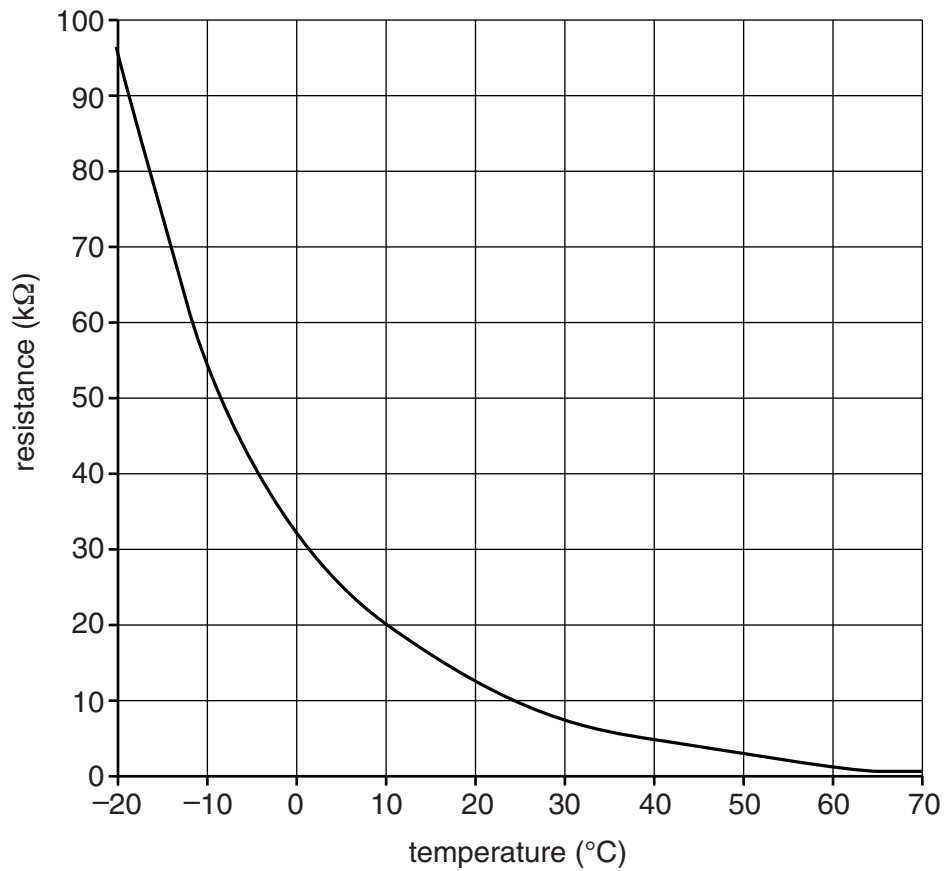

Fig. 2
- (b) Fig. 2 is a graph showing the relationship between resistance and temperature for a thermistor.